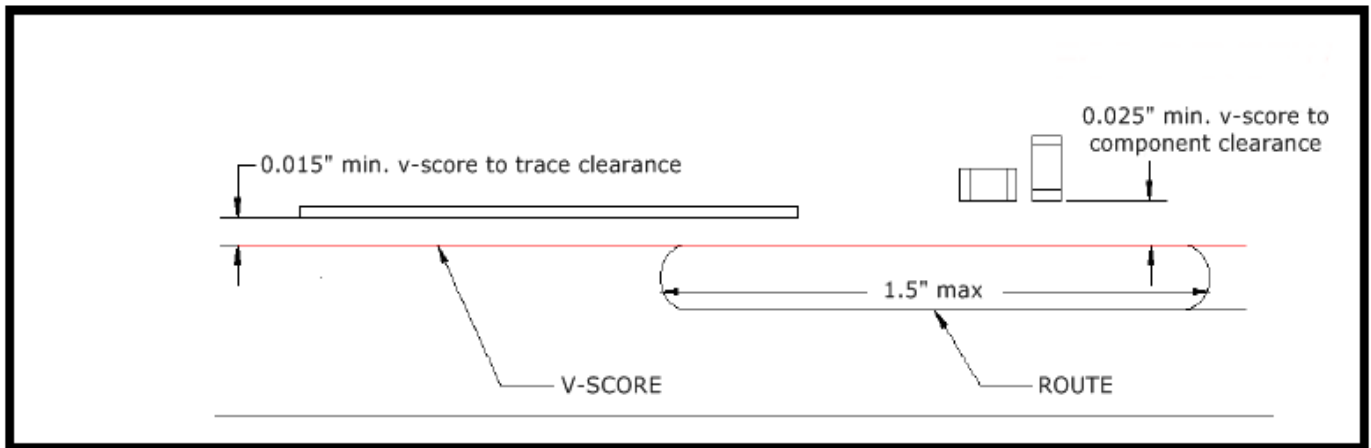
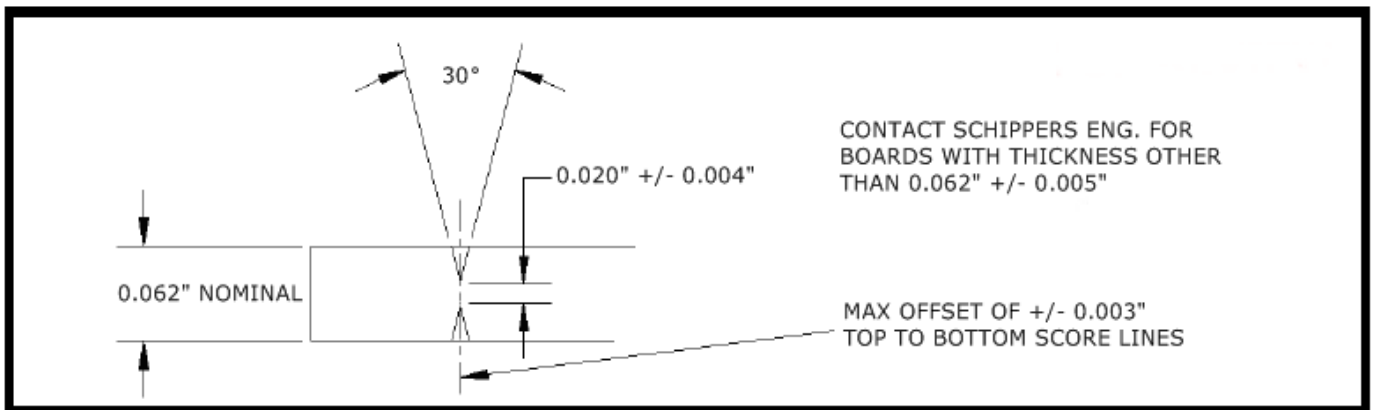

FIGURE 1
FIGURE 2
1. The following specifications apply to V-Score depaneling for edge clearance and design layout. See Figure 1 for edge clearance and keep outs. See Figure 2 for score line requirements.